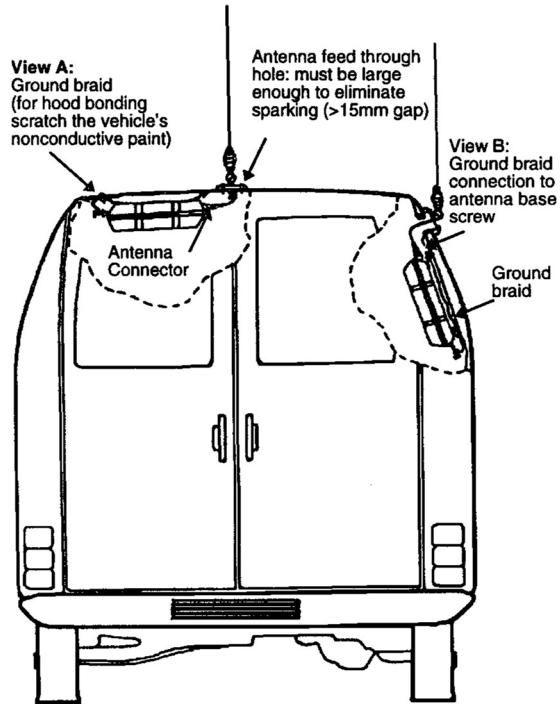

Figure 2-2. Effective Installations
Examples of effective installations are given in Figure 2-2.
**Step 2.** Connect the ATU ground terminal to the vehicle body with a wide grounding braid, as shown in Figure 2-2, view A. Ensure that the grounding braid is as short as possible. If the ATU is installed on the inner side of the vehicle's body (see Figure 2-2, view B), a